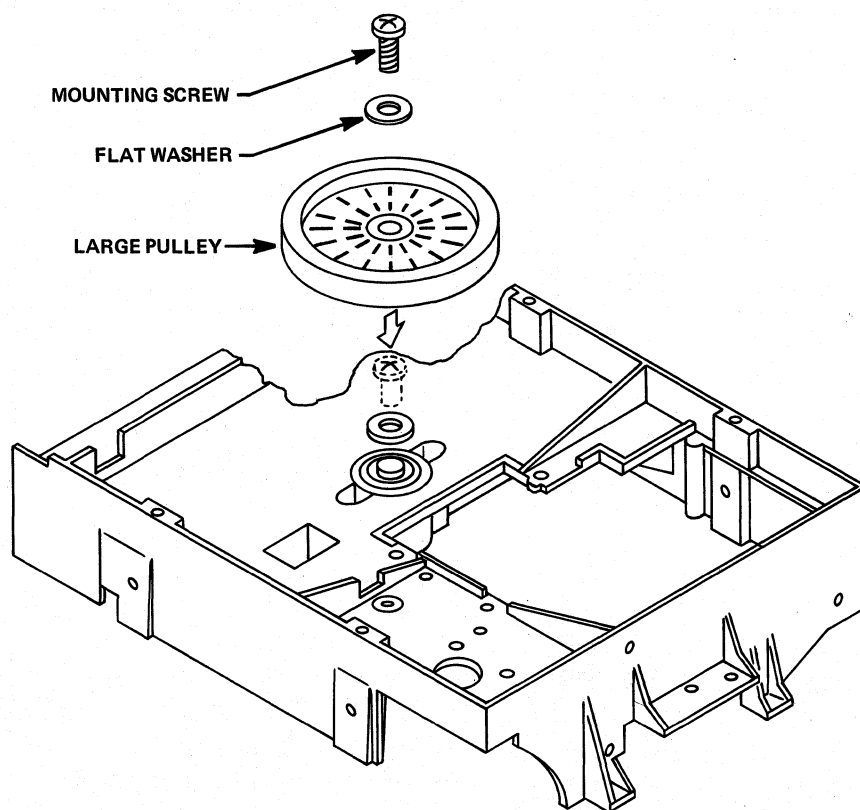

Figure 5-30
5.15.5 With a Phillips screwdriver, while holding the hub, remove the mounting screw and washer from the Spindle Assembly (see Figure 5-30).
5.15.6 Remove the large pulley from the bottom of the chassis (see Figure 5-30).
- 5.15.14 With a Phillips screwdriver, while holding the hub, insert the large pulley, flat washer, and the mounting screw into the bottom of the chassis (see Figure 5-30).
- 5.15.15 While holding the hub, tighten the mounting screw (see Figure 5-30).